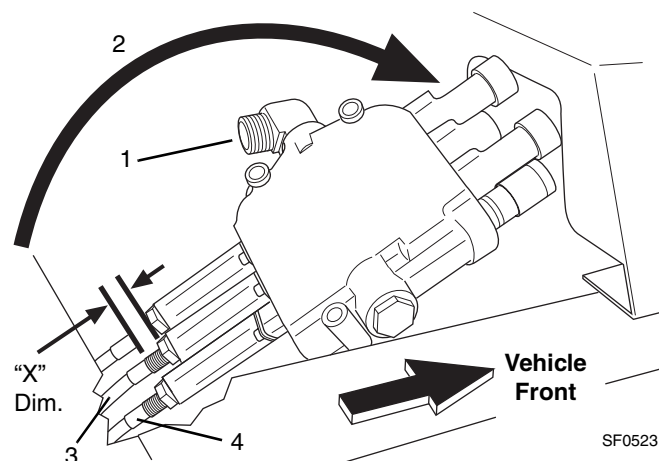

Figure 7-54 Main Control Valve Removal
6. Remove the hose from the elbow fitting (Fig. 7-54, 1) on the left side of the main control valve. Cap the fitting and plug the hose end to prevent contamination from entering the valve and/or hydraulic system.
7. Remove the three capscrews holding the valve to the crossmember, saving the hardware for reassembly. Carefully pull the valve, with the control cables attached, up and away from the crossmember and lay forward (Fig. 7-54, 2).
8. Before disconnecting the cable (Fig. 7-54, 3 or 4), measure the length of the exposed threads ("X" Dimension) on the cable housing to the first jam nut. Record this measurement for reference during cable installation.